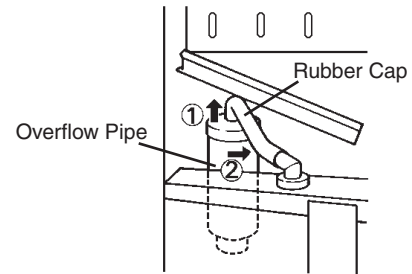

Fig. 4
- 3) Drain the water tank by removing the insulation panel and the rubber cap covering the overflow pipe in the water tank. Remove the overflow pipe by turning it counterclockwise. See Fig. 4.